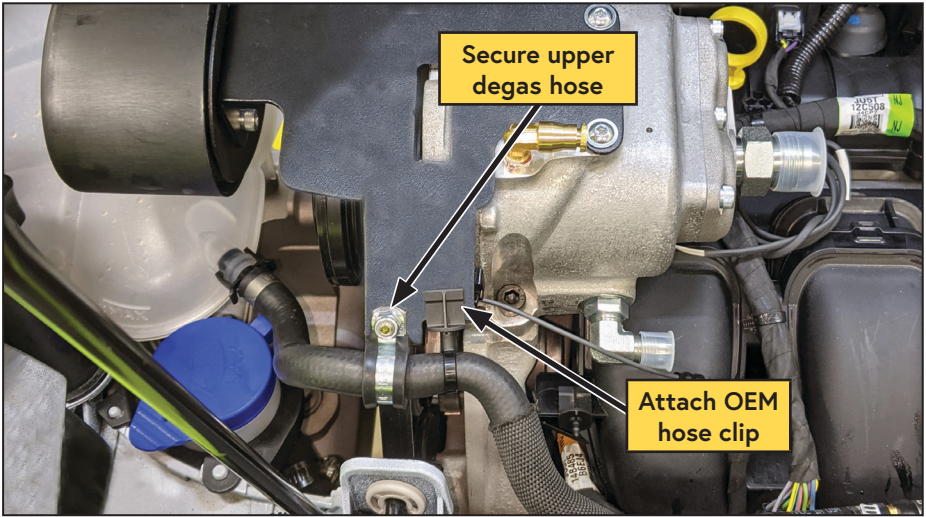

Figure 15 — Secure upper degas hose
- Attach the OEM hose clip to the air filter bracket. (Figure 15).
- Using the supplied P-clip and fasteners, secure the upper degas hose to the air filter bracket (Figure 15).